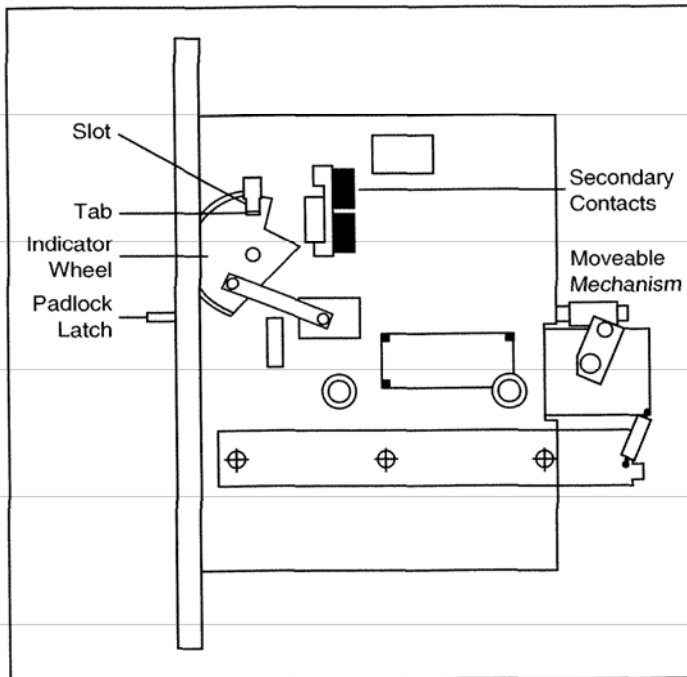

Figure 2-6 Indicator Wheel Shown in Test Position with Tab in Slot
- Rack the breaker to "DISCONNECTED" position. Visually verify that the secondary contacts are apart. Insure tab falls into slot of indicator wheel on right hand side of movable mechanism (Figure 2-6).